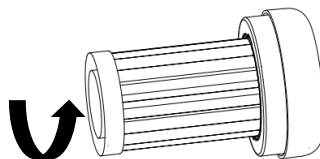

Figure 17
3. Rotate the HEPA filter counterclockwise to remove it from the fixed plate of air outlet cover (Figure 17).